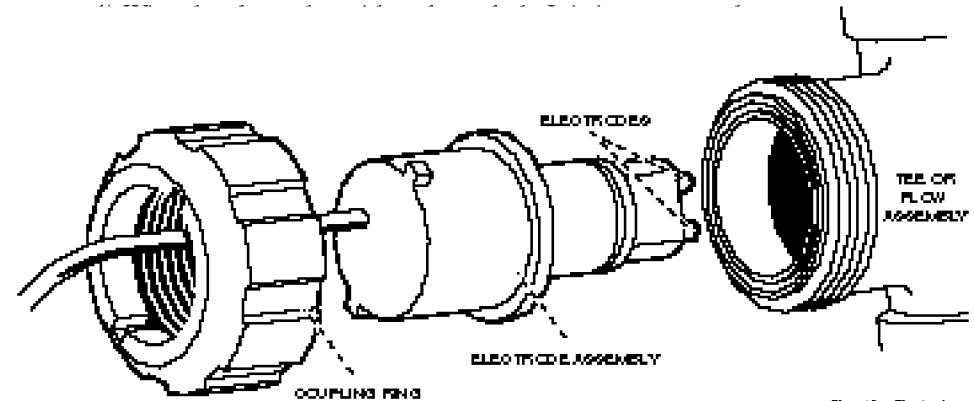

Fig. 10 Electrode
- 2) Unscrew coupling ring. Do not align slots on coupling ring with tabs on electrode housing. Grasp coupling ring and remove electrode by pulling straight out. (See Fig.10, Electrode)